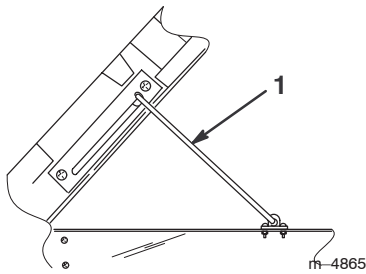

Figure 19
3. Raise the bed to its full height; then lower it slightly to engage the prop rod (Fig. 19).